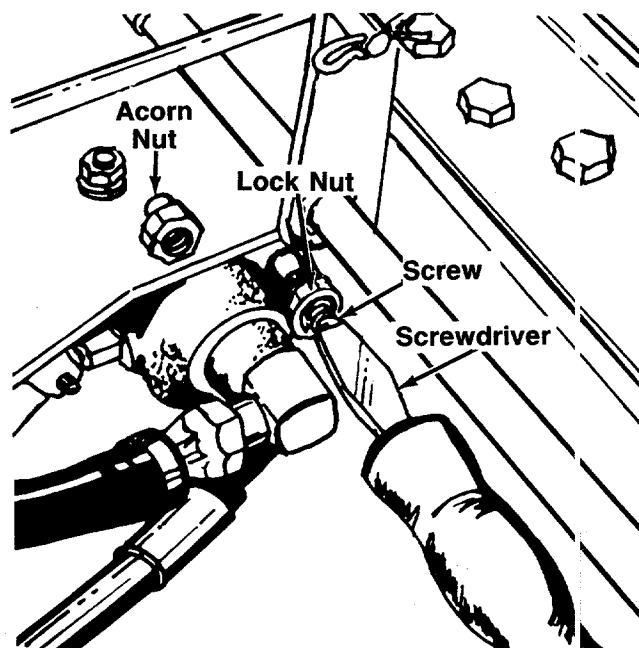

FIGURE 17.
1. Remove the acorn nut and washer. See figure 17.